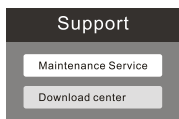

Figure 2
[www.benetechco.net](http://www.benetechco.net) in the browser, press enter and enter the page to find the menu "Support > Download center",as shown in Figure 2. Click into the page to find the software installation package "setup\_Anemometer. Zip",as shown in figure 3.Click the download button to directly extract the "zip package" after downloading. Double-click "setup\_Anemometer.exe" icon to enter into program installation interface; choose between"Chinese or English" according to software installation prompt; click "OK" to the next step, as shown in Figure 4 below.
- Line chart: Figure 1 is wind speed / volume chart; Figure 2 is temperature and humidity chart; print button; measured data list.